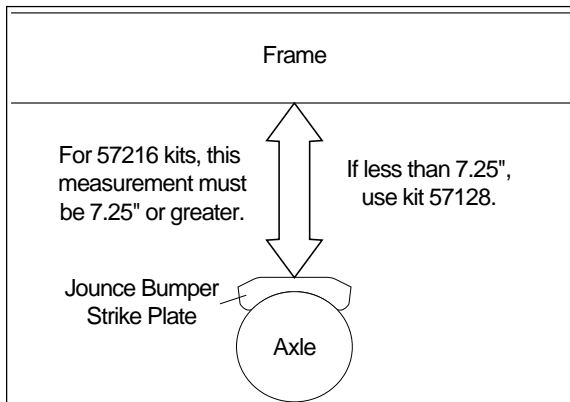

Figure 2
1. The 57216 kit requires a minimum of 7.25" from the top of the jounce bumper strike plate to the bottom of the frame rail. Before installation is begun, check for sufficient clearance. If the measurement is less than 7.25", then use kit 57128 (Figure 2).